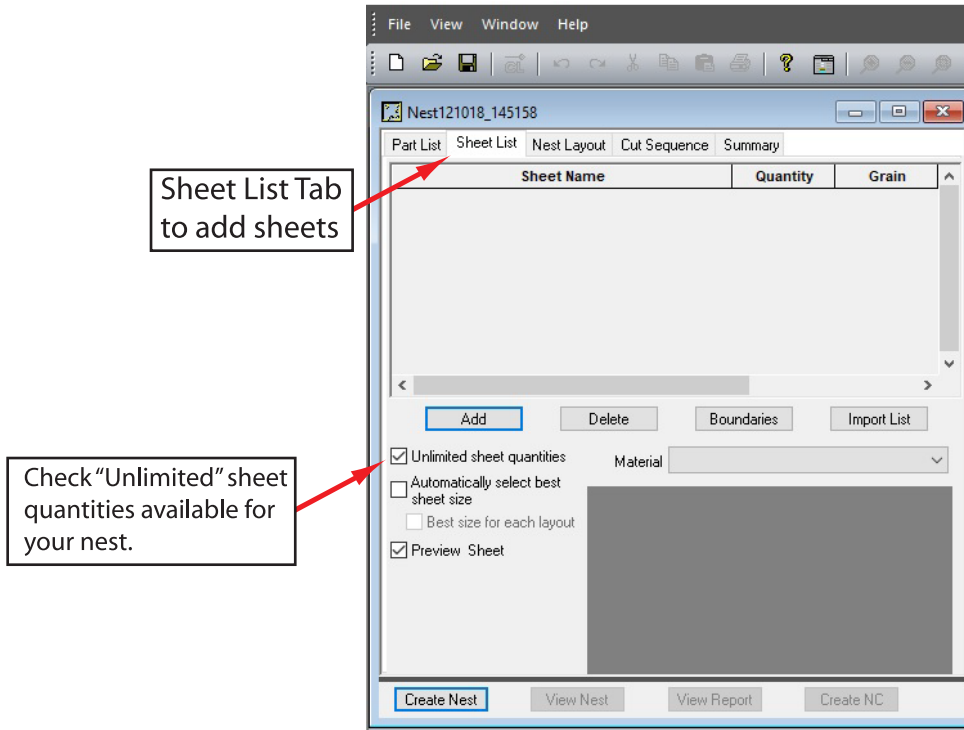

Fig.4
- 3) Next add the sheet(s) of material you wish to use by clicking on the “**SHEET LIST**” tab, the 2nd tab from the left on the upper tab bar shown below in Fig.4. As a default, make sure you check the “Unlimited Sheet Quantities” box so you will have enough sheets to cover your nest in case more than one is needed. If more are needed and you only have one sheet available, there will be parts left off of the nest due to no more sheets to put them on. So check this as a default. This setting will also stay in that selection unless you uncheck it for a different nest for special quantity or other. Just know that you will have to re-check the unlimited box when you’re done or it will stay in that selection as well.)